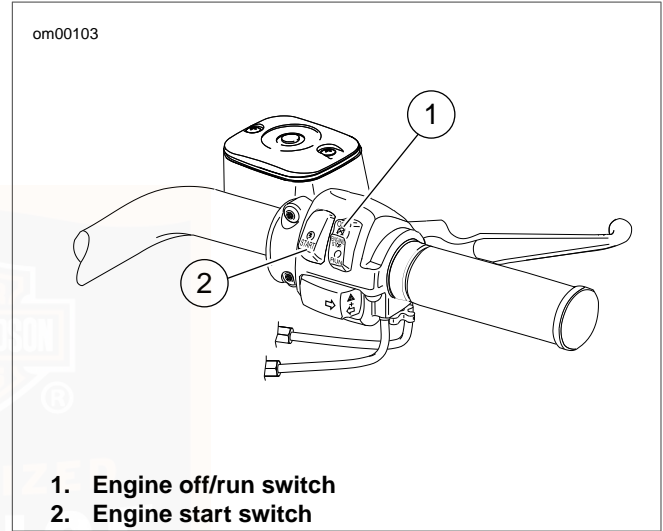

Figure 18. Right Handlebar Controls
2. See Figure 18. Turn the off/run switch to RUN position.